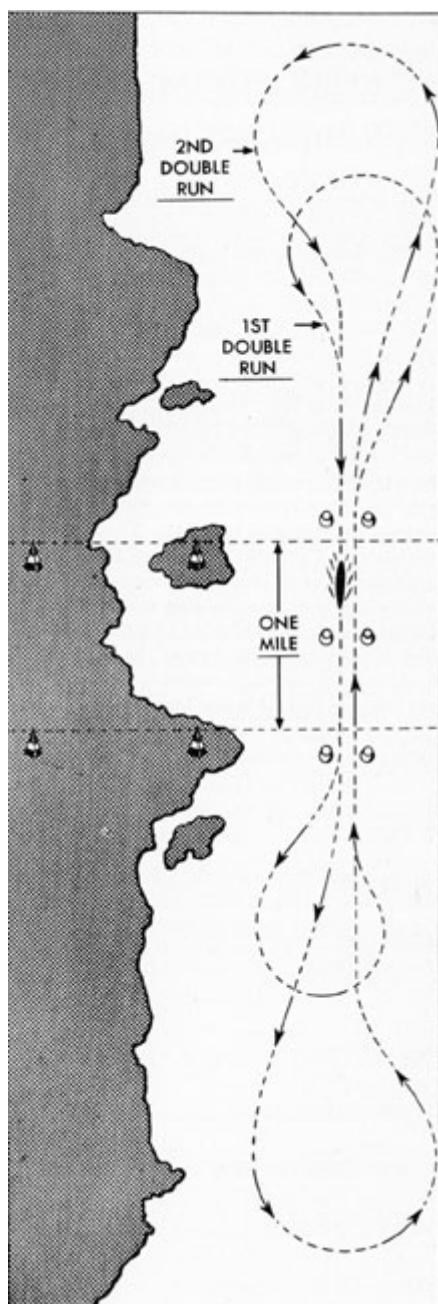

Figure 14-1. Measured mile course.
log for the particular ship on which it is installed. This calibration is performed during a trial run over a measured distance, usually 1 mile in length. Trial conditions can rarely be duplicated; and even with suitable corrections for foul bottom, variations in displacement and trim, and effect of wind and sea, speed indications derived from an ordinary cruise are worthless for calibrating the log system. Similarly, checking distance indications by comparison of the log readings with the distances traveled between ports cannot be used for recalibration purposes since the current effect cannot be determined with the degree of accuracy required. Thus the most accurate and suitable method of checking the calibration of a log under actual operating conditions is to run the ship over a measured course 1 mile in length (Figure 14-1). Since the conditions can rarely be duplicated, record the conditions under which any trial run is made in a table similar to the following:
**14A2. Preparations for checking the log.** If the ship is not near a standard measured mile course, it is possible to use fixed points 1 mile apart as shown in Figure 14-1. If possible, a location should be chosen in which the current effect is small and which has a direction parallel to the axis of the ship's course. The depth of water should be, if possible, greater than 40 fathoms. Shallower water will prevent the ship from developing proper speed for a given propeller shaft rpm, and the log will tend to read high when checked in shallow water because of wave systems established by the ship and its screws. Before making the runs over the measured mile, the log system should be checked for proper operation as follows: